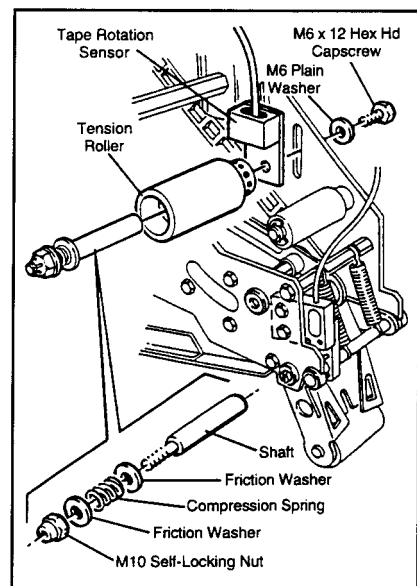

Figure 8
2. Remove existing tension roller from shaft and replace with new roller shaft and hardware as shown in Figure 8.
3. Install the tape rotation sensor between the tension roller shaft and the taping head side plate as shown in Figure 8. **Note – Tape rotation sensor REPLACES large plain washer between shaft and taping head side plate. DO NOT USE WASHER.** Install and tighten the M6 x 12 hex head capscrew and M6 plain washer that holds the tension roller shaft in position. **Be sure sensor cable is pointed in same direction as box presence sensor.**